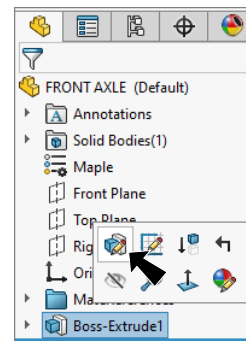

Fig. 14
Step 1. Click **Boss-Extrude1** in the Feature Manager and click **Edit Feature**  on the context toolbar, **Fig. 14**.